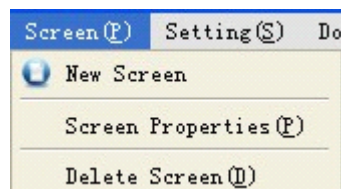

Figure 2-32: Screen menu
“Screen” menu consists of commands used for screen operation, including New Screen (N), Screen Properties (P) and Delete Screen (D). See Figure 2-32.